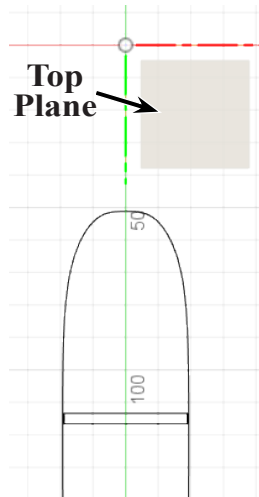

Fig. 26
Step 1. On the Solid tab  click **Create Sketch**  in the toolbar and click **Top plane** in canvas, Fig. 26.